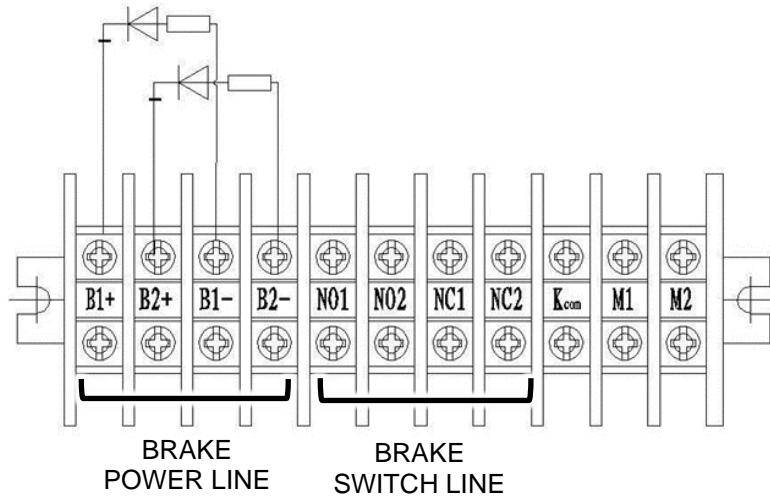

Figure 34
3. On the machine side disconnect the Brake and Brake Switch wires for the brake that is to be worked on Figure 34.